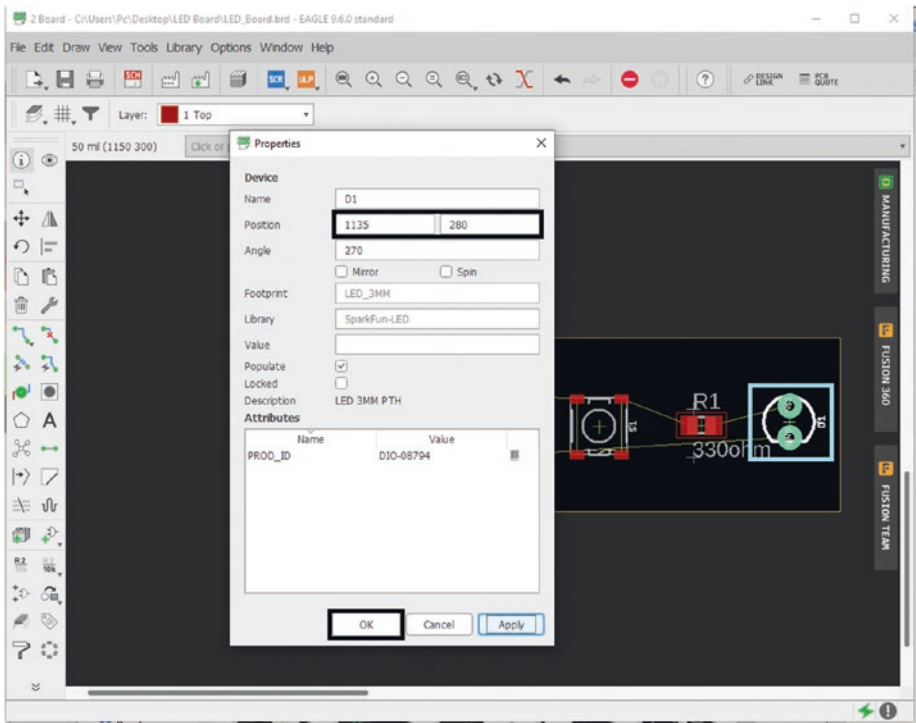

Figure 5-68. Move LED
17. Now add the LED to the PCB, positioned at “1135” and “280.” You have now finished arranging the parts onto the PCB. See Figure 5-68.